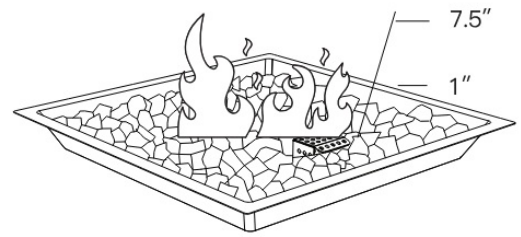

Figure 3
6. Adjust the flame to the desired height with the control knob. Visually check the burner flames as pictured below (Figure 3).